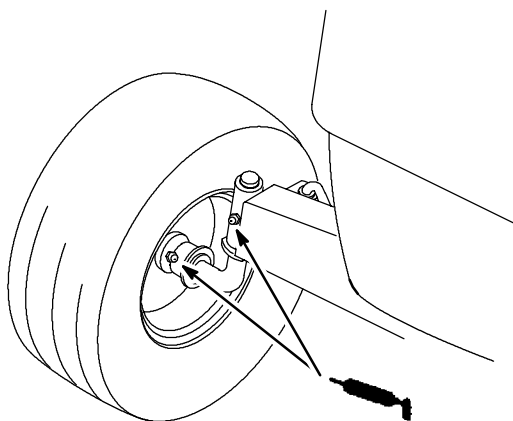

Figure 12
1. Lubricate the front wheels and steering spindles until grease begins to ooze out the bearings (Fig. 12).